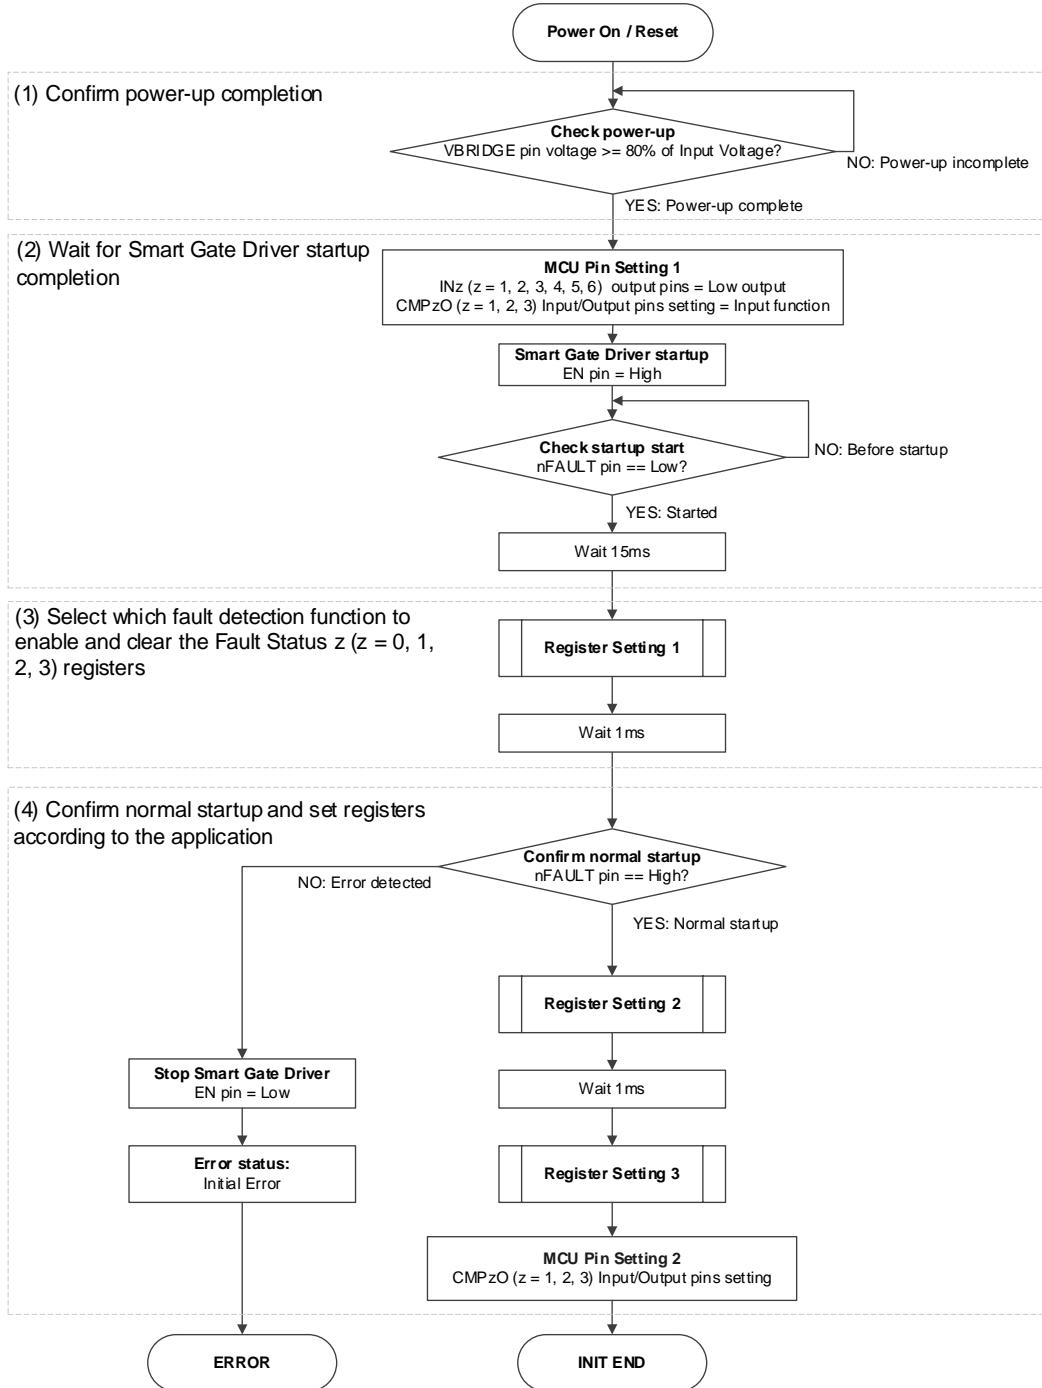

Figure 3-1 Smart Gate Driver Start-up Sequence Example
**Figure 3-1** shows a flowchart of a start-up sequence example for the smart gate driver. In addition, the following are points to be noted at each step.